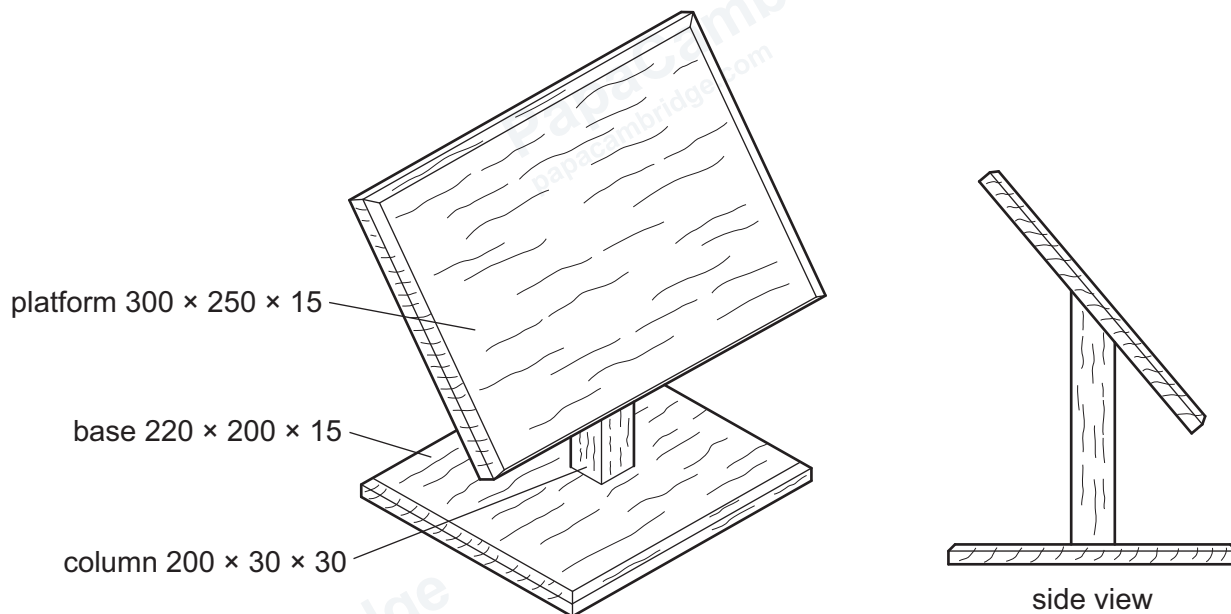
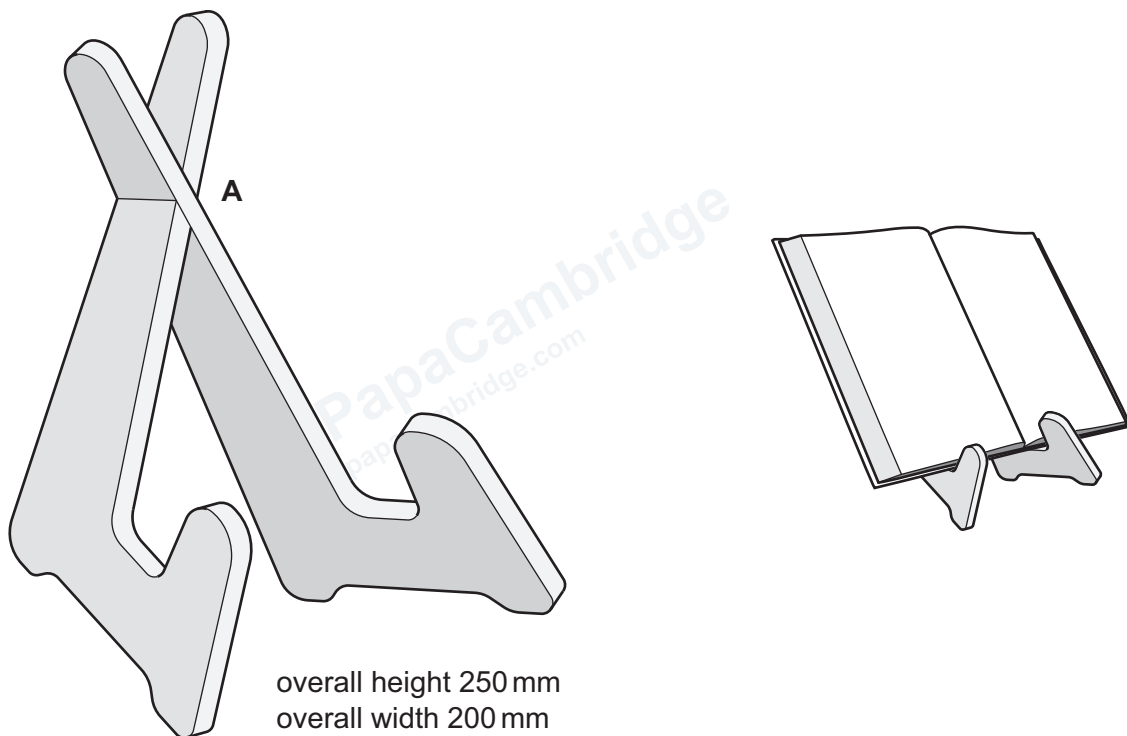

Figure 11.1
Figure 11.6
- 11 Figure 11.1 shows views of an incomplete design for a cookbook stand used in a kitchen. The stand is made of hardwood and could be made in a school workshop.
- (e) The cookbook stand shown in Figure 11.1 does not provide any support for a book placed on the platform to prevent it from sliding off. Use sketches and notes to show how a book could be supported on the platform. Include all constructional details and name the materials used.
- (h) Figure 11.6 shows a different type of cookbook stand made from MDF with a spray painted finish. The two parts of the stand slot together at **A**.
Give **three** reasons why consumers may prefer to purchase the cookbook stand shown in Figure 11.6 rather than the cookbook stand shown in Figure 11.1.